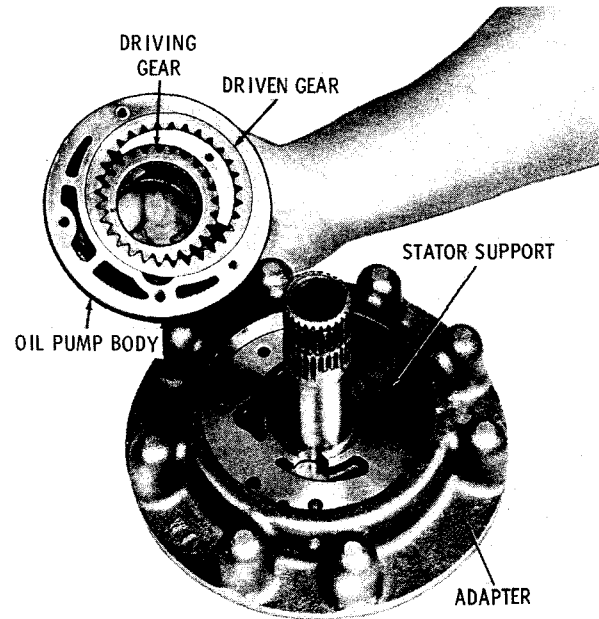

Fig. 6-2. Removing oil pump body and gears (TC 200)
(1) Remove five bolts 36 (A, foldout 3) from oil pump body adapter 33. Remove the oil pump body and gears (fig. 6-2).
(2) Remove gears 29 and 30 (A, foldout 3) from pump body 28.